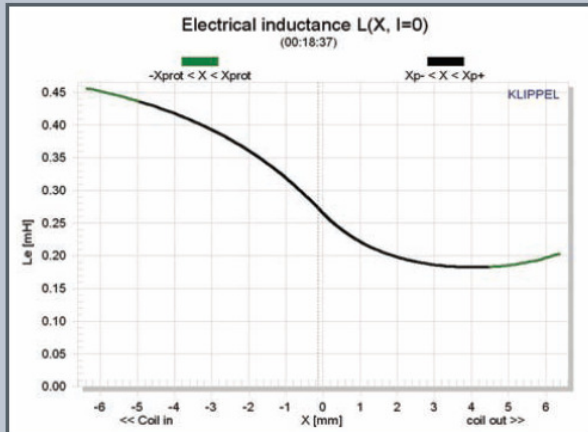

FIGURE 24: Klippel Analyzer  $L(X)$  curve for the Scan-Speak 12W/4524G00.
Figure 24 gives the inductance curves L(X) for the 12W/4524G00, which shows a typical situation where the inductance increases and the voice coil travels inward covering more of the pole piece. Inductance swing from Xmax forward to Xmax rearward is about 0.21mH inductance. Having Scan-Speak add a copper cap to the pole will decrease the inductive swing, plus you could incorporate the copper cap along with a non-conducting former and get some reasonable subjective improvement, but, of course, you just increased the cost of a cost-effective product!